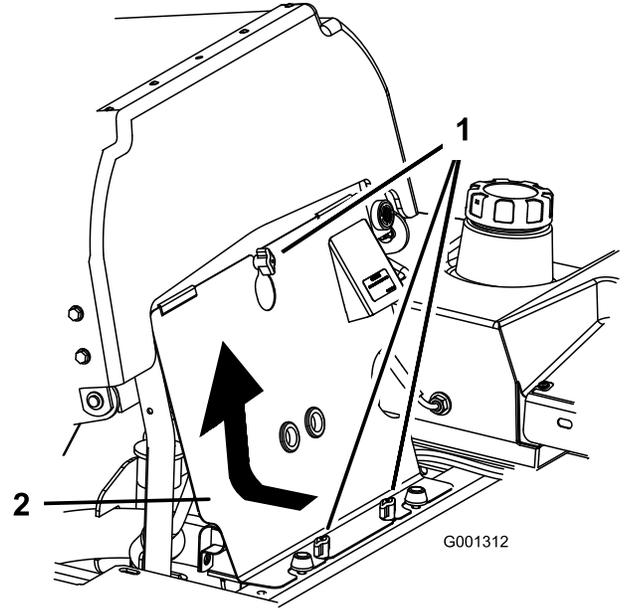

**Figure 50**
5. Place a pan below the oil drain. Remove the drain plug and let the oil drain completely (Figure 50).